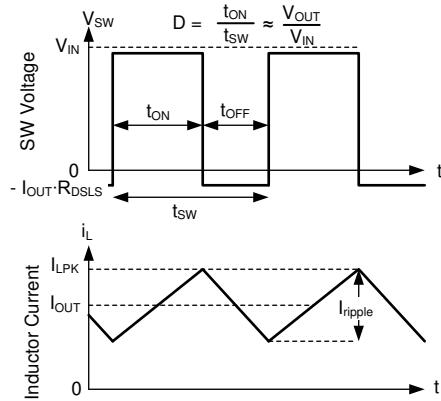

图 9-21. SW Voltage and Inductor Current Waveforms in Continuous Conduction Mode (CCM)
The following operating description of the LM62440-Q1 refers to # 9.2 and to the waveforms in 图 9-21. In CCM, the LM62440-Q1 supplies a regulated output voltage by turning on the internal high-side (HS) and low-side (LS) NMOS switches with varying duty cycle (D). During the HS switch on-time, the SW pin voltage,  $V_{SW}$ , swings up to approximately  $V_{IN}$ , and the inductor current,  $i_L$ , increases with a linear slope. The HS switch is turned off by the control logic. During the HS switch off-time,  $t_{OFF}$ , the LS switch is turned on. Inductor current discharges through the LS switch, which forces the  $V_{SW}$  to swing below ground by the voltage drop across the LS switch. The converter loop adjusts the duty cycle to maintain a constant output voltage. D is defined by the on-time of the HS switch over the switching period: